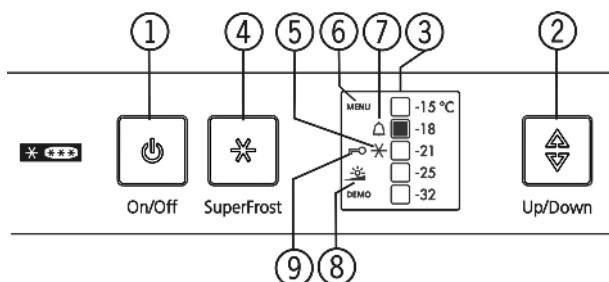

Fig. 3
- ▶ Press the On/Off button *Fig. 3 (1)*.